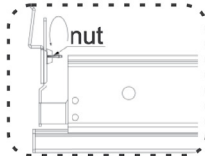

Figure1
3. Unlock the two nuts at the ends of the linear light (Figure1).